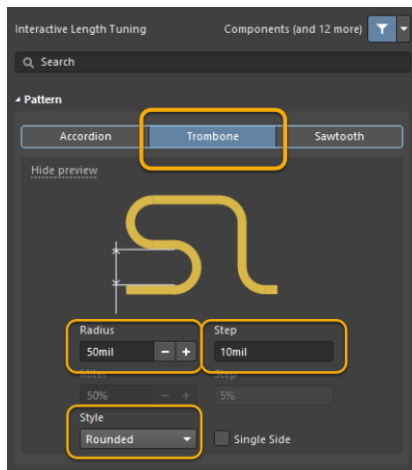

Figure 22. Trombone pattern
- b) Press the **TAB** key to open the *Properties* panel. Using Figure 22 as a reference to change the following settings: